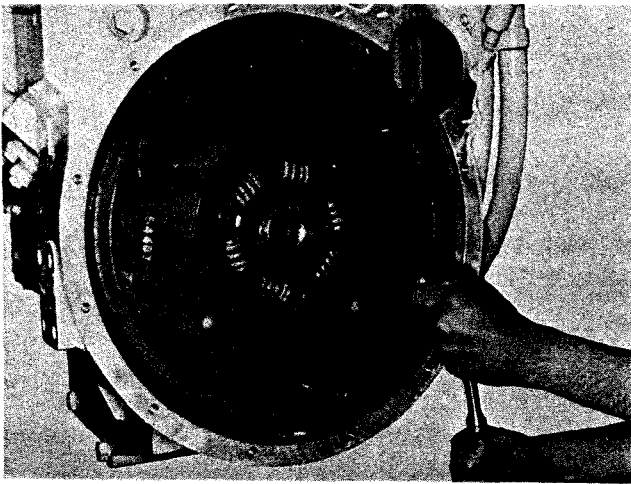

Fig. 5-8, (V10060). Removing drive plate
6. Remove capscrews and lockwashers securing drive plate to engine flywheel. Fig. 5-8. Lift off drive plate.